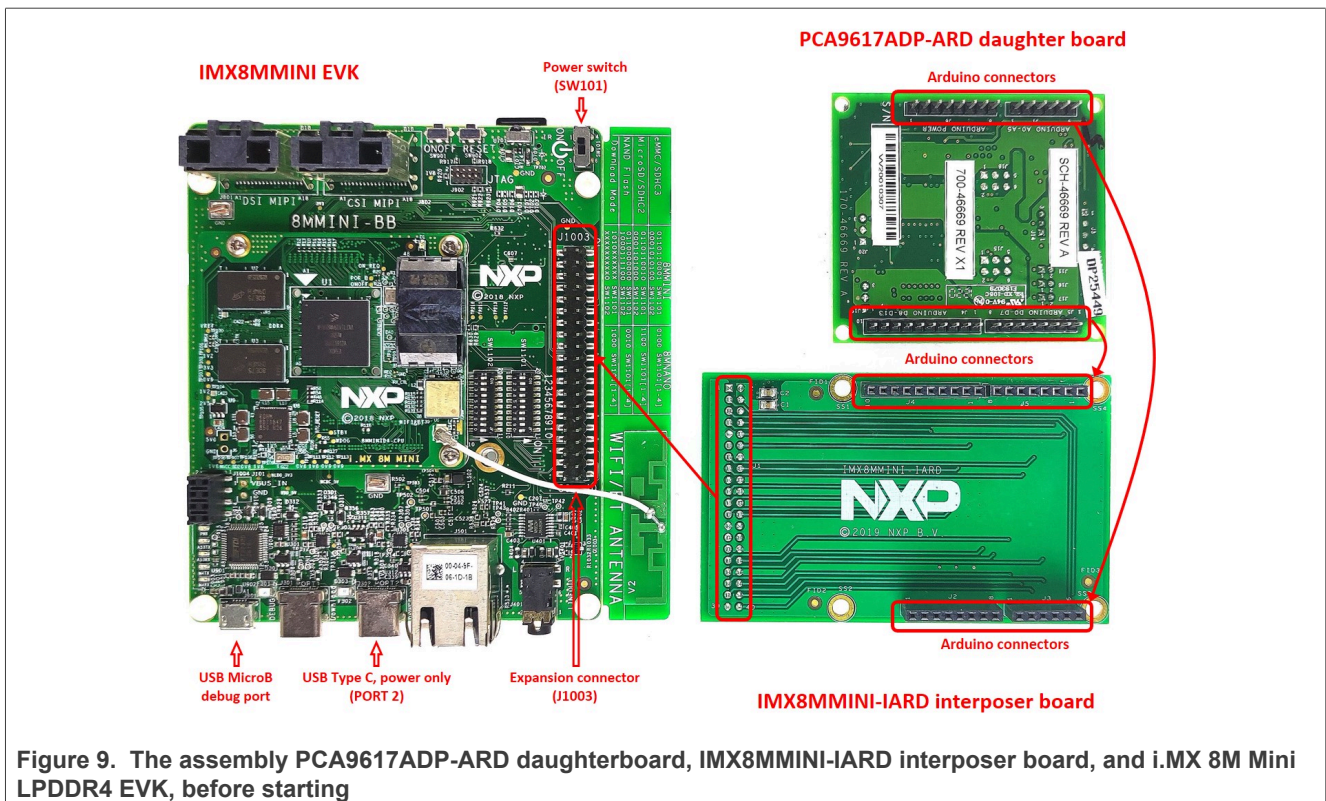
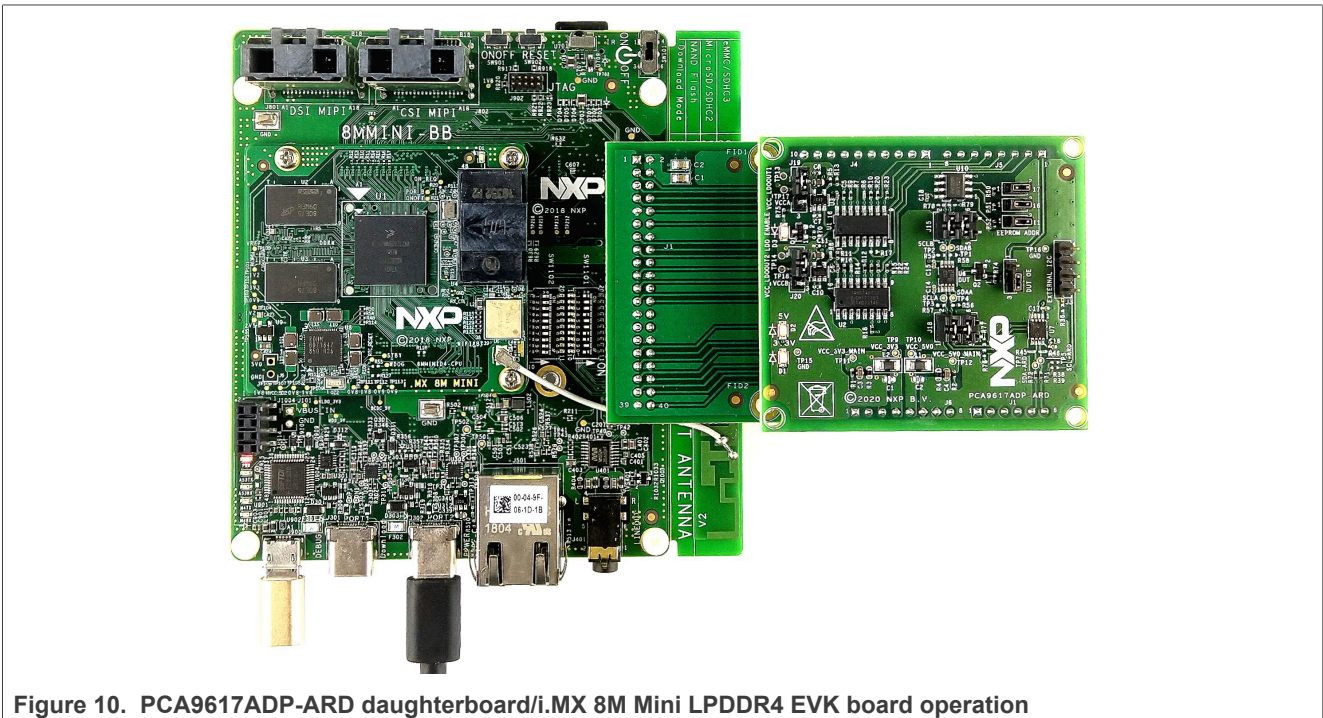

Figure 9. The assembly PCA9617ADP-ARD daughterboard, IMX8MMINI-IARD interposer board, and i.MX 8M Mini LPDDR4 EVK, before starting
Figure 10. PCA9617ADP-ARD daughterboard/i.MX 8M Mini LPDDR4 EVK board operation
To operate the setup, along with the EVK and the daughterboard, a third board must be included in the setup assembly. Figure 9 shows the necessary boards and how these boards are connected. The configuration consists of:
To power up the EVK, a USB-C cable connected to port 2 of the EVK is used. The power switch SW101 on the EVK board must be set to ON position to power up the setup. Data communication is achieved by routing a separate USB (Micro-B) cable from a USB port on the PC to the debug port (J901) on the EVK (see Figure 9 and Figure 10).
2. Attach IMXMMINI-IARD connector plug J1 (located on the bottom of the board) into J1003 expansion board located on the top side of i.MX 8M Mini LPDDR4 EVK (see Figure 9);